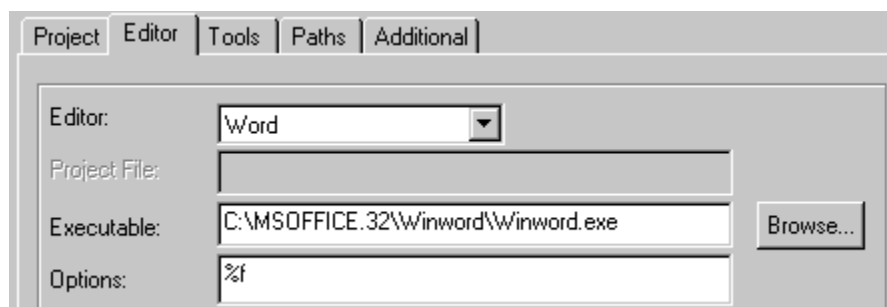

Figure 4-8. Editor Configuration for Word
6. The **Options** edit box contains options used for error feedback in the MCUez assembler and linker. After selecting **Word**, the shell automatically enters the appropriate options. **Figure 4-8** shows a typical Word configuration.